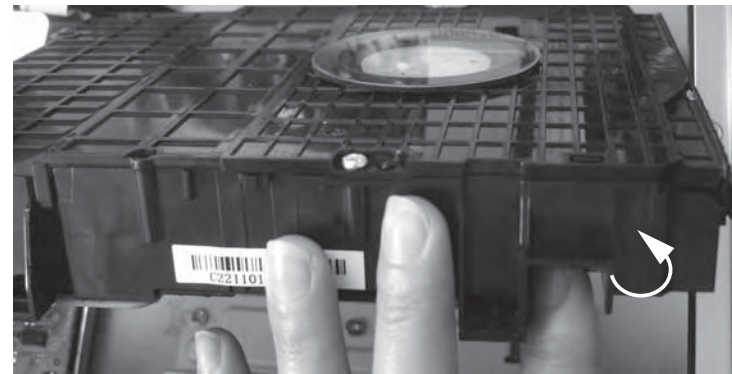
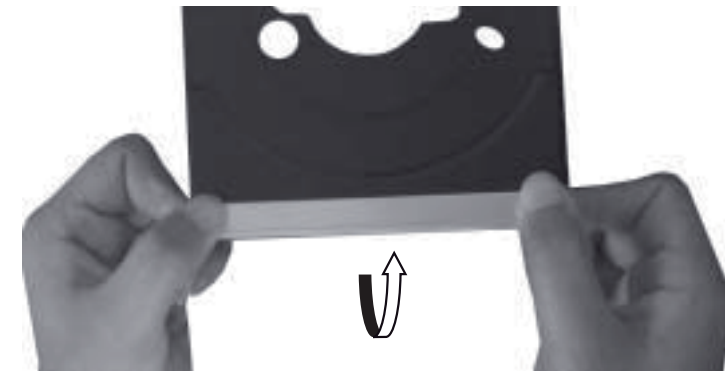

Figure 4
Figure 5
- b) Rotate the gear wheel on the side of DVD Module to remove DVD Door as shown in figure 4 and figure 5 then close the tray manually by pushing it back in.